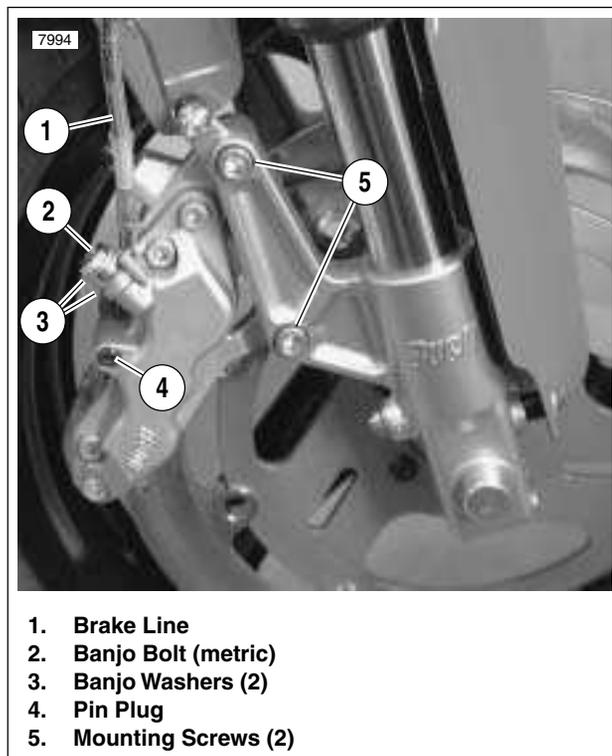

Figure 2-29. Front Brake Caliper Mounts
2. See Figure 2-29. Remove banjo bolt (2) (metric) and two banjo washers (3) to disconnect brake line (1) from caliper. Discard banjo washers.
- a. Remove pin plug (4).
- c. Remove pad spring (2).
4. See Figure 2-29. Detach caliper from mounts.
- a. Remove both mounting screws (5) while supporting caliper above brake rotor.
2. See Figure 2-29. Apply **LOCTITE THREADLOCKER 272** (red) to both caliper mounting screws (5). Install and tighten screws to 22-25 ft-lbs (30-34 Nm).
- c. Install pad hanger pin (1) (metric). Tighten to 11-14.5 ft-lbs (15-20 Nm).
- d. See Figure 2-29. Install pin plug (4). Tighten to 1.5-2.1 ft-lbs (2-3 Nm).